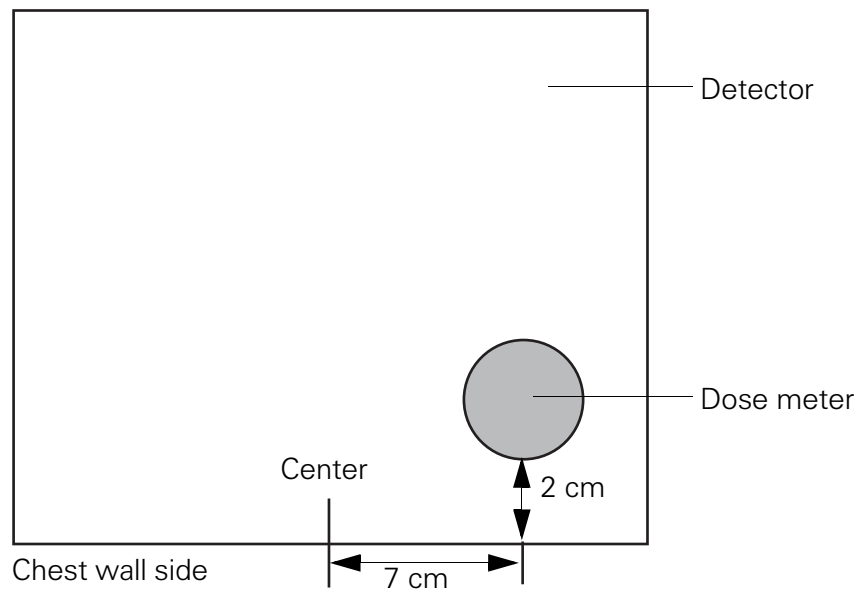

Figure 4 Positioning the dose meter
5. Position dose meter on object table according to Figure 4.